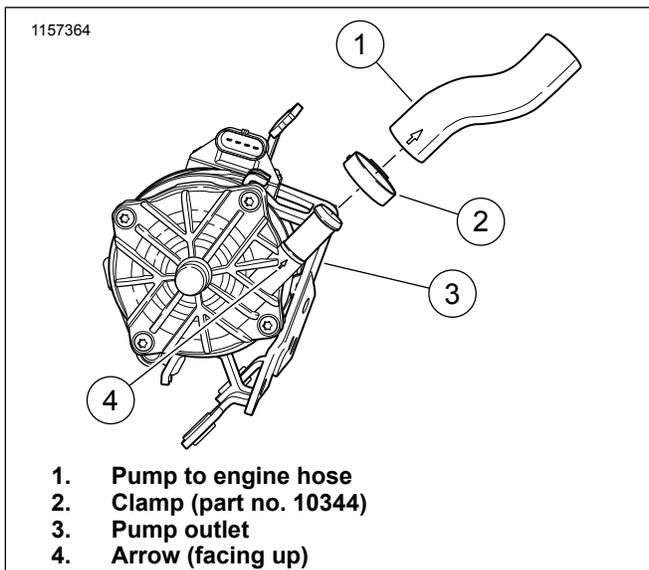

Figure 6. Pump to Engine Hose
- 9. See Figure 6. Install pump to engine hose (1) on pump outlet (3).
- a. Locate pump outlet (3) which is marked by an arrow facing (4) upward.